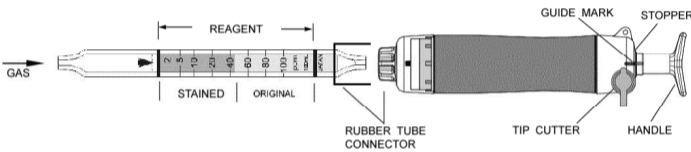

Fig.1
- ① Break both ends of the detector tube.
- ② Insert the detector tube into the aspirating pump securely as shown in Fig.1. (Arrow mark shall point to the pump.)
- ③ Align the guide marks on the shaft and stopper of the aspirating pump.
- ④ Pull the pump handle at a full stroke until it locks and wait for 1 minute or until the completion of sampling is confirmed with the flow indicator of the pump. (See descriptions about the flow indicator in the instruction manual of the pump.)
- ⑤ On completion of sampling, read the scale at the maximum point of the stained layer.
- ⑥ When the concentration is below the scale range, 4 pump strokes can be used to determine concentrations of 0.5 - 25 ppm. Repeat the procedures ③ to ⑤ 3 times more, then following equation is available for true concentration after correcting humidity using undermentioned table. (REFER TO ITEM 3. CORRECTION FOR AMBIENT CONDITIONS.)